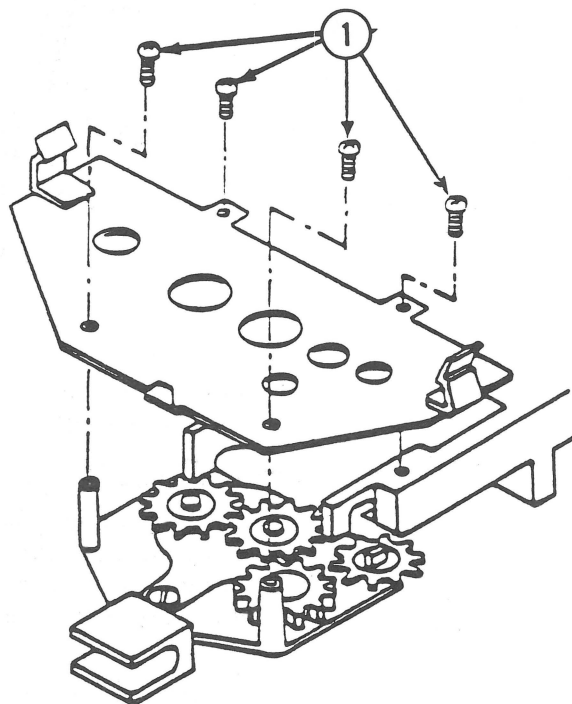

FIGURE 8
4. Remove the four cartridge mount plate fixing screws (Figure 8, #1).
8. Replace the four screws that secure the cartridge mount plate (see Figure 8, #1).